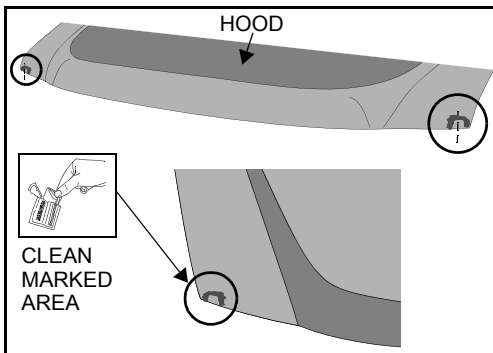

Figure 7.
7. At the two previously marked positions for the outer holes, clean the areas forward of the markings on the hood outer and inner lip with the alcohol wipe provided and remove any residue with a clean dry cloth. See figure 7.